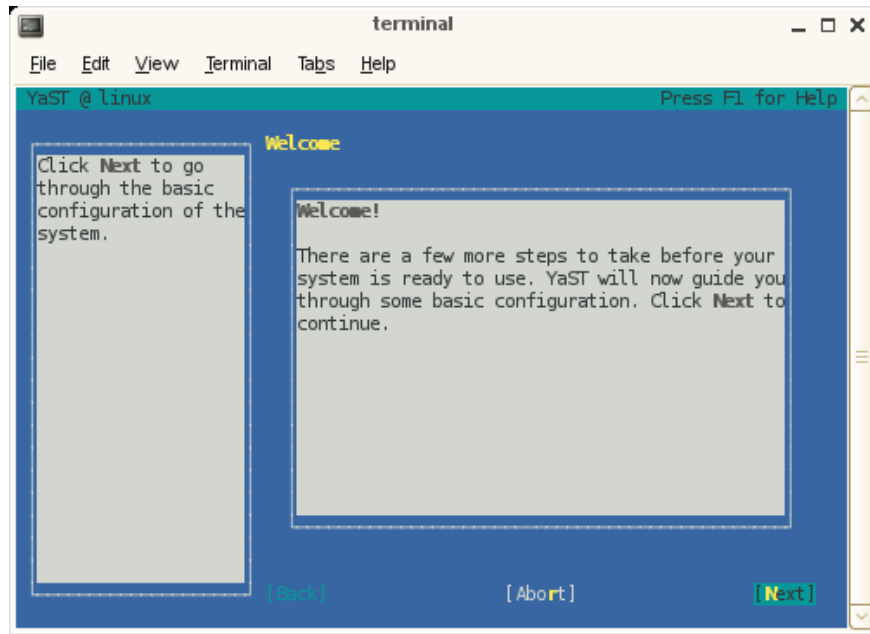

Figure 2-2 YaST **Welcome** Screen
6. After the reboot completes, the YaST first boot installation tool starts and a **Welcome** screen appears, as shown in Figure 2-2 on page 36. Click on the **Next** button to proceed.